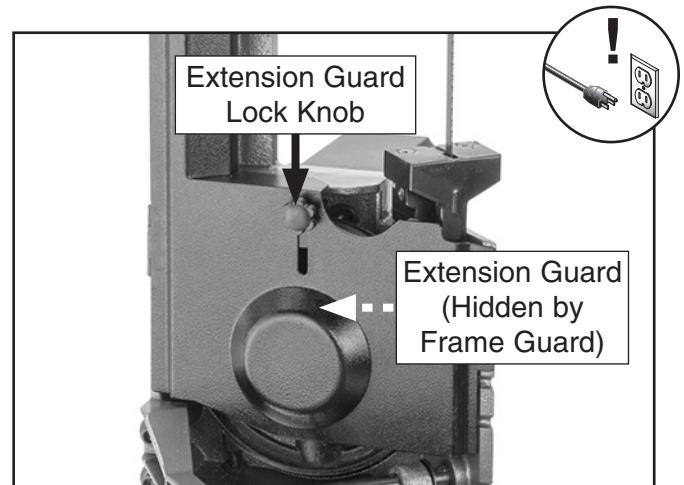

Figure 51. Extension guard in raised position.
4. Loosen extension guard lock knob, fully raise extension guard, and tight lock knob to secure (see **Figure 51**).